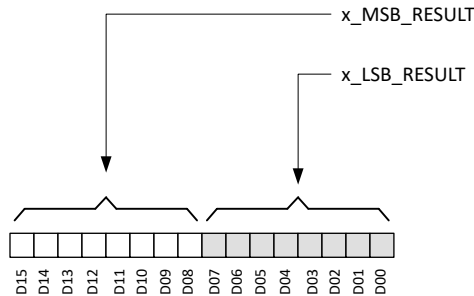

图 7-15. Magnetic Sensor Data Definition
The X, Y, and Z magnetic sensor data are stored in x\_MSB\_RESULT and x\_LSB\_RESULT registers. 图 7-15 shows that each sensor output stored in a 16-bit 2's complement format in two 8-bit registers. The data can be retrieved as 16-bit format combining both MSB and LSB registers, or as 8-bit format through the MSB register.
- $D_i$  is the data bit shown in 图 7-15.